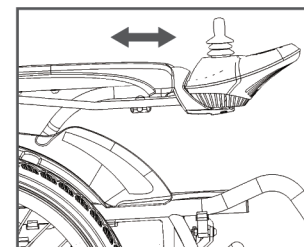

Figure 15
- Adjustment of controller: sit on the electric wheelchair, loosen the torx bolt, push the fixing rod of the controller backwards and forwards to the proper position and lock the torx bolt, see Figure 15. (The adjustment method is same if the controller is installed on the left side)